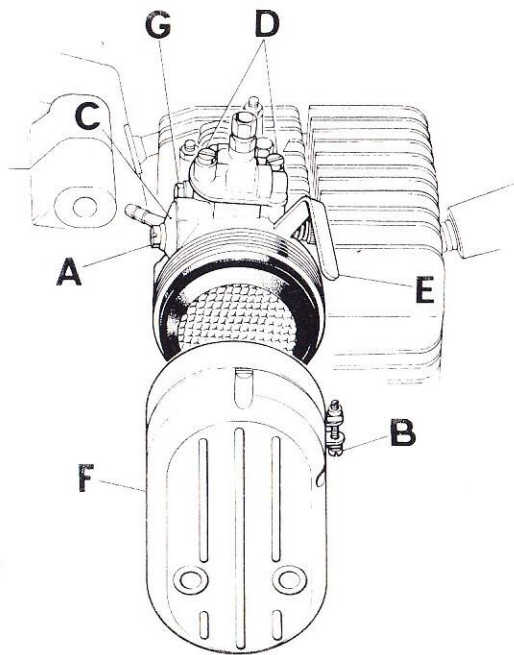

Figure 7
To gain access to the air cleaner, merely slacken the clip bolt (B) Fig. 7 clamping it to the carburettor, twist and pull the grey plastic cleaner cover away. The air cleaner element is now visible and is a push-in fit to the carburettor. If necessary a screwdriver blade can be used beneath the lip with care from both sides to pull the cleaner out without damage. To clean, wash the element in clean petrol and then re-oil by immersion in light engine oil equally diluted in petrol. Allow to drain then re-fit.
CLEANING CARBURETTOR (FIG. 7)